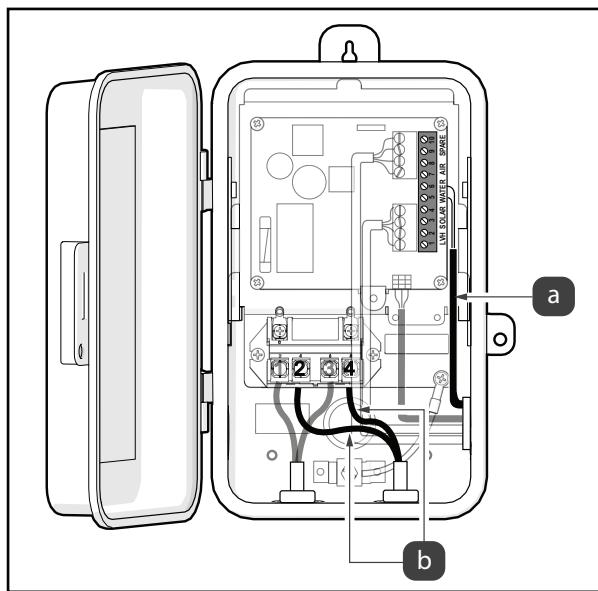

Figure 13. Connect Load Input Cables
6. Install Low Voltage Wires. Install the wires for the temperature sensor connections through the side knockout, see Figure 13 (a).
14. Connect one “Load” input to Terminal 2 and the other to Terminal 4, see Figure 13 (b).